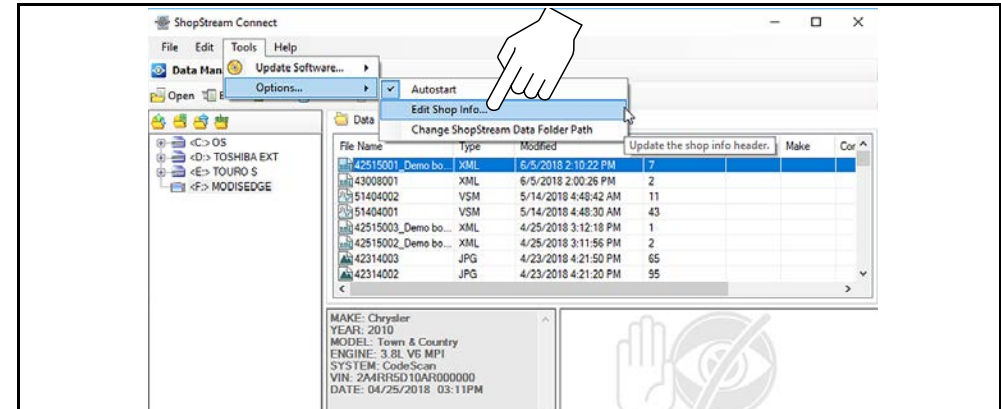

Figure 13-9
1. From ShopStream Connect, select **Tools > Options > Edit Shop Info** (Figure 13-9).